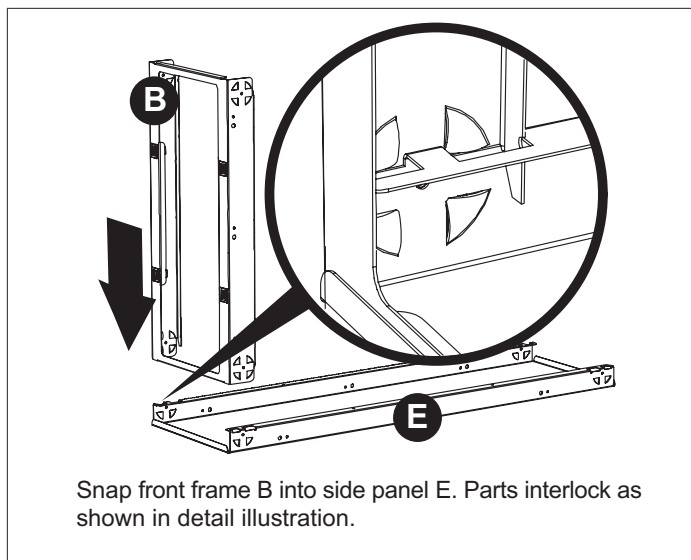

Figure 3. Assemble Front Frame (B) to Side Panel (E)
The cabinet sections are designed to lock together. Align the edges as shown in Figure 3 on page 3. It may be necessary to apply force to snap the tight pieces together.
2. Place side panel E on a firm surface. Align and insert front frame B into one end of side panel E (see Figure 3 on page 3). Firmly press down until each corner has snapped into place.